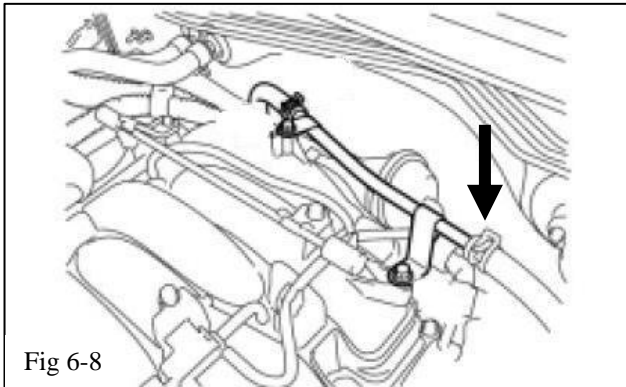

Fig 6-8
- (i) Remove the brake booster vacuum hose from the manifold pipe and the brake booster (Fig 6-8). Save the clamps, but discard the hose.